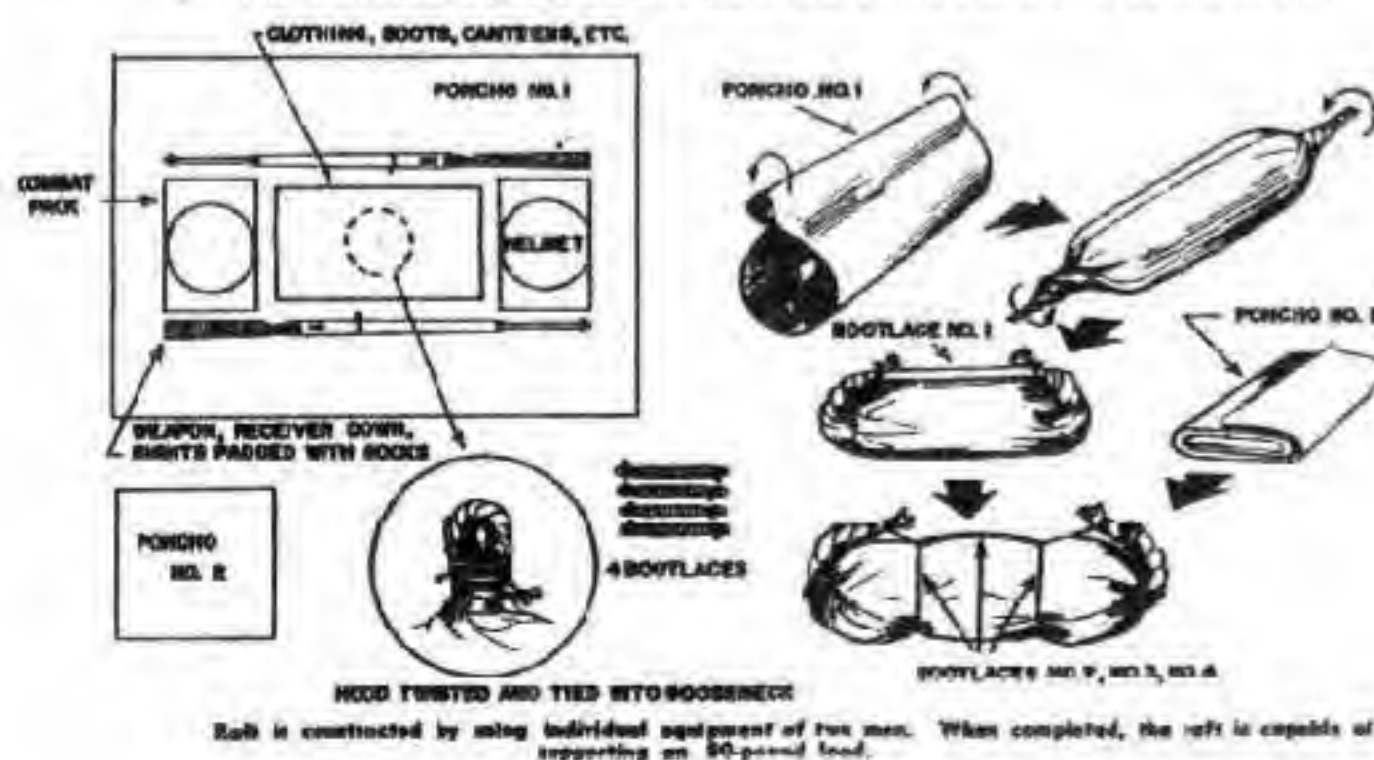

Figure 1.
2. To build the poncho raft: (See Figure 1)